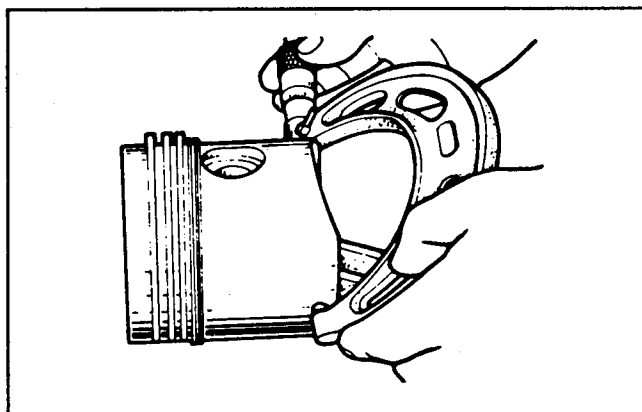

Figure 94
8. Measure the piston outside diameter (Fig. 94). (See Cylinder Block in this section).
#### 2. Measure the piston diameter (Fig. 94).